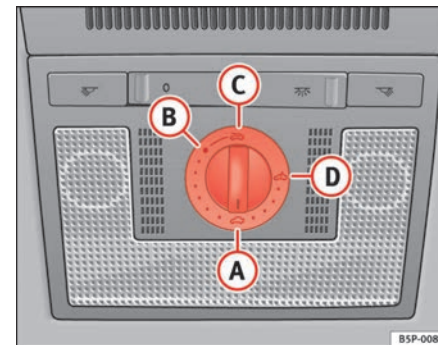

Fig. 69 Roof lining description: rotary sunroof control / deflector ▶
- Turn the rotary button to position **A** ⇒ fig. 69 ⇒ .